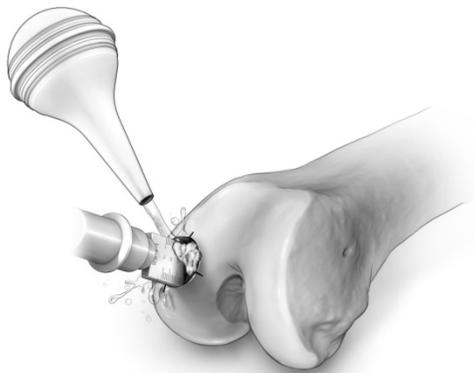
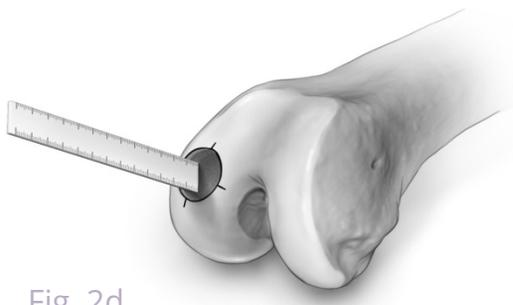

Fig. 2c
Fig. 2d
**Step 8:** Select the same size drill bit and coring reamer from the instrument set. Mount the drill bit on a cannulated drill, and place it over the pin in the patient's condyle. With constant irrigation, slowly advance the drill through the articular surface, through the conical bone, and into cancellous bone (Fig. 2c). The surgeon should examine the advancement after every 2-3mm. Proper depth is achieved when there is a minimum of 5-6mm of cancellous bone along the perimeter. Measure and note the depths from the articular cartilage surface at the 12, 3, 6, and 9 o'clock hash marks (Fig. 2d).